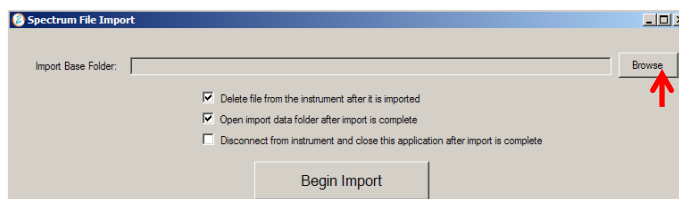

Figure 3-50: Choose a folder
- Step 3 When prompted, click on the *Browse* button to choose the base folder previously created for the files (Figure 3-50).